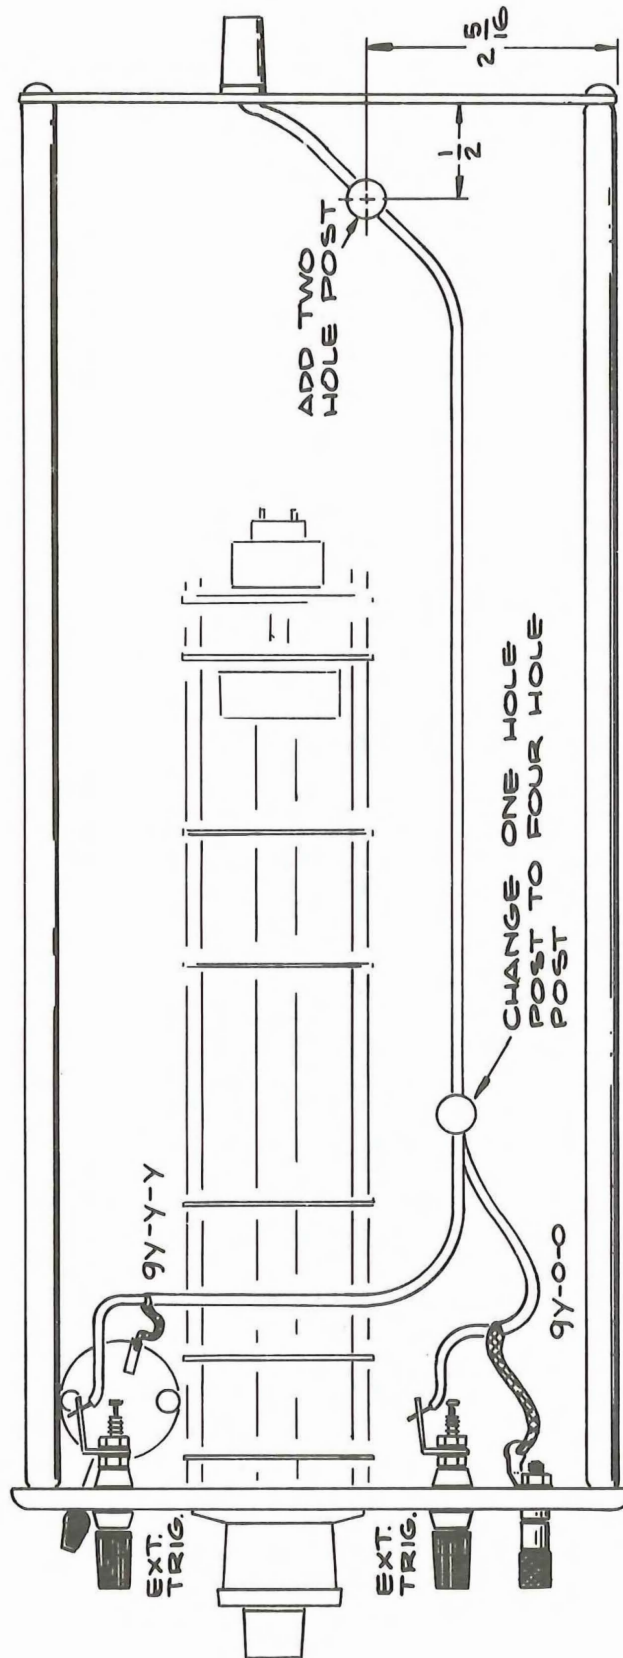

Fig. 10 3B3
Refer to Fig. 10.
- ( ) 4. Drill a 5/32 in. hole at the rear of the chassis, as shown in Fig. 10.